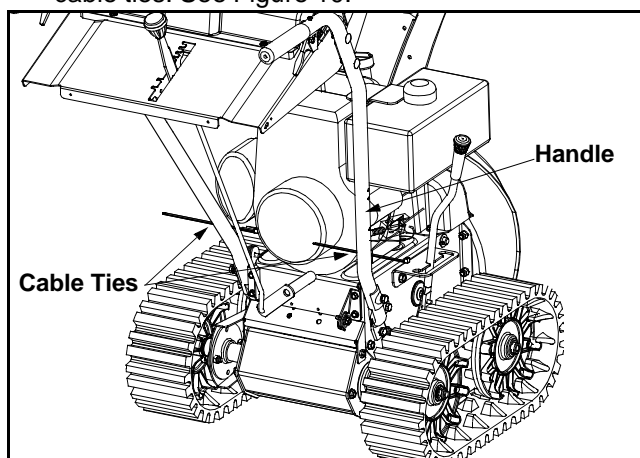

Figure 10
- Secure the track control cables to the inside of the lower handle using the cable ties provided. Pull the cable ties tight and trim the excess ends of the cable ties. See Figure 10.